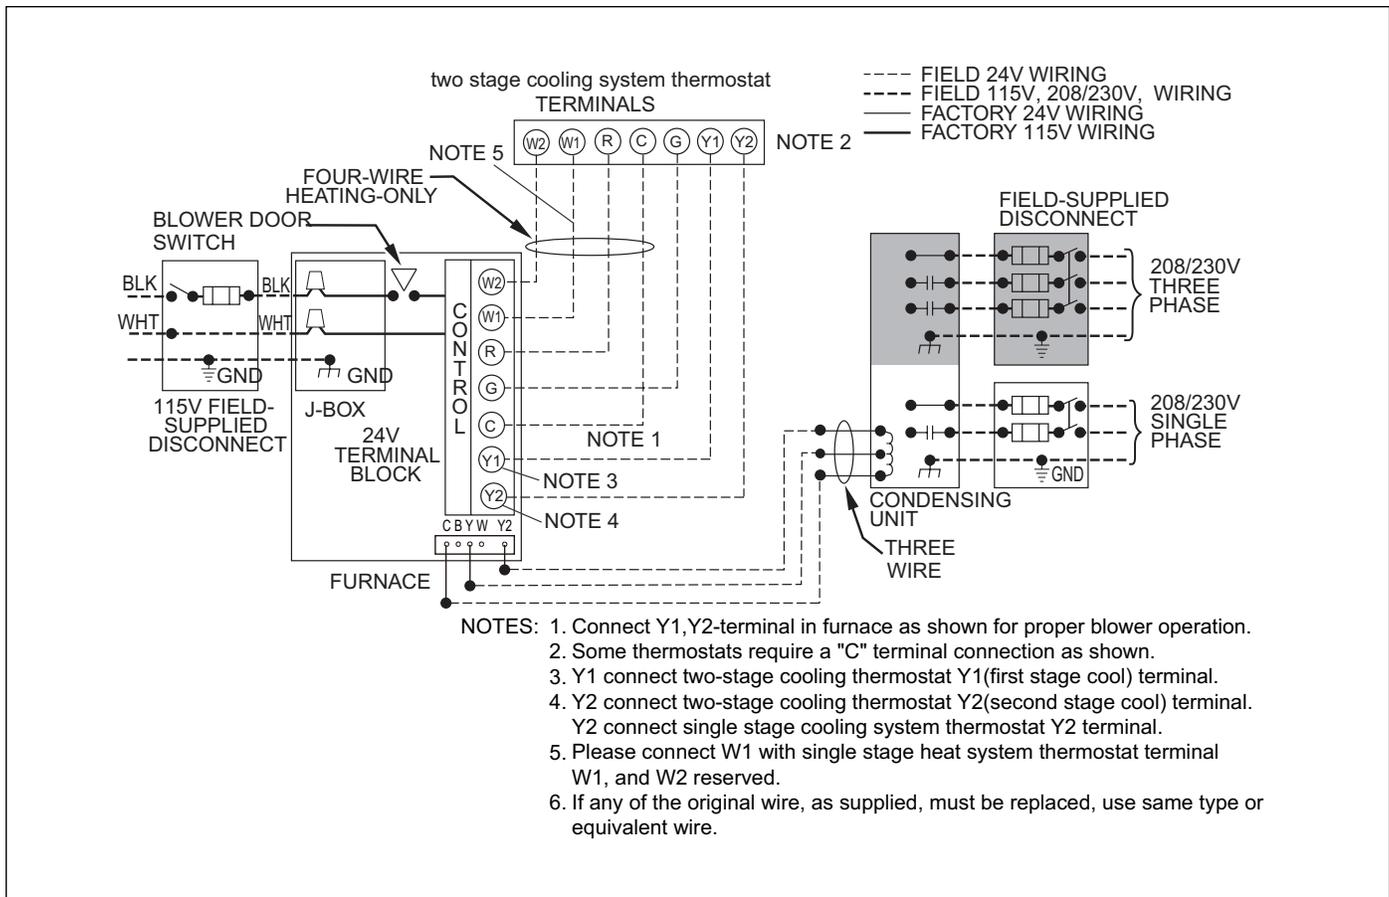

Figure 48 Heating and Cooling Application Wiring Diagram with 2-Stage Thermostat
12. Complete electrical box wiring and installation. Connect line voltage leads as shown in Figure 48. Use best practices (NEC in U.S.) for wire bushings, strain relief, etc.
5. Connect line voltage leads as shown in Fig. 48.